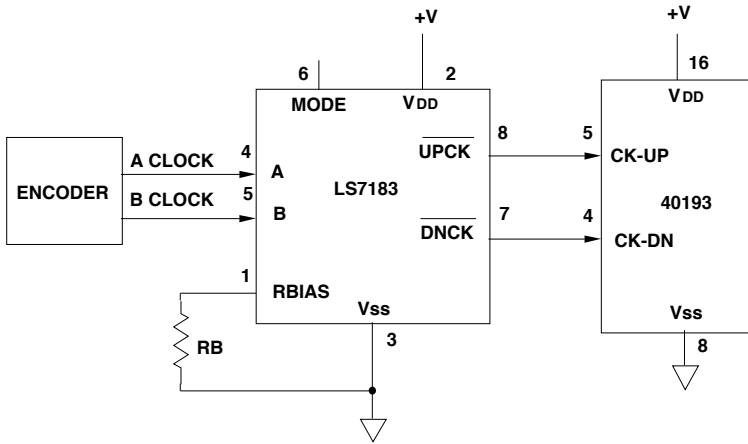

FIGURE 6A. TYPICAL APPLICATION FOR LS7183 IN x4 MODE
- Interface incremental encoders to Up / Down Counters (See Figure 6A and Figure 6B)